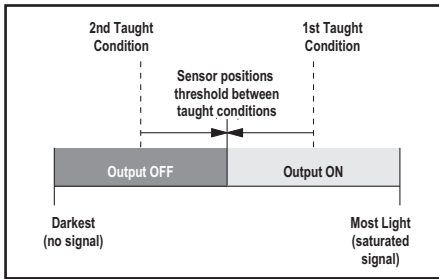

Figure 3. Static TEACH (Light Operate shown)
- Locates a single switching threshold (switchpoint) at the optimal location between the two taught conditions, with the Output ON condition on one side, and the Output OFF condition on the other (see Figure 3).